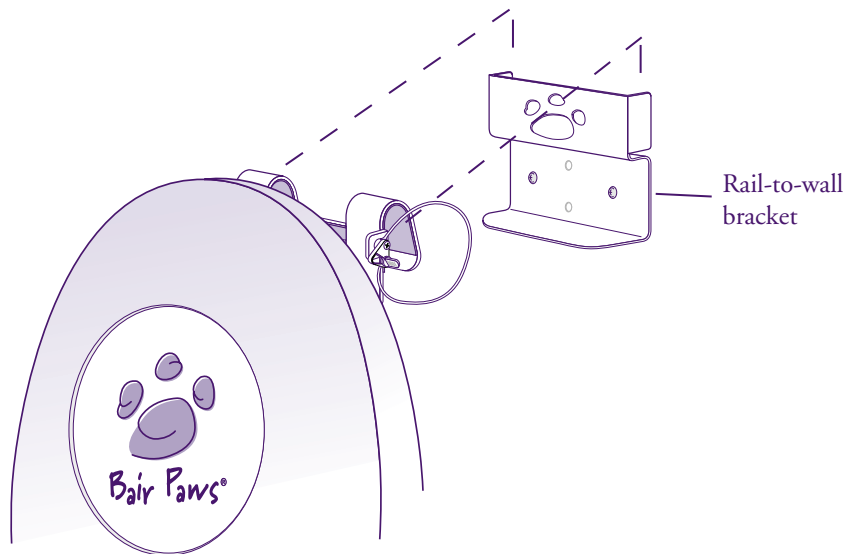

Figure 5. Placing the warming unit with a rail-mount onto the rail-to-wall bracket.
1. Using the wall-screw holes on the rail-to-wall bracket (see Figure 5) as a template, mark the position for the two wall anchors on the desired wall. The use of a level is recommended.
5. Hook the warming unit with the attached rail-mount to the rail-to-wall bracket as depicted in Figure 5.